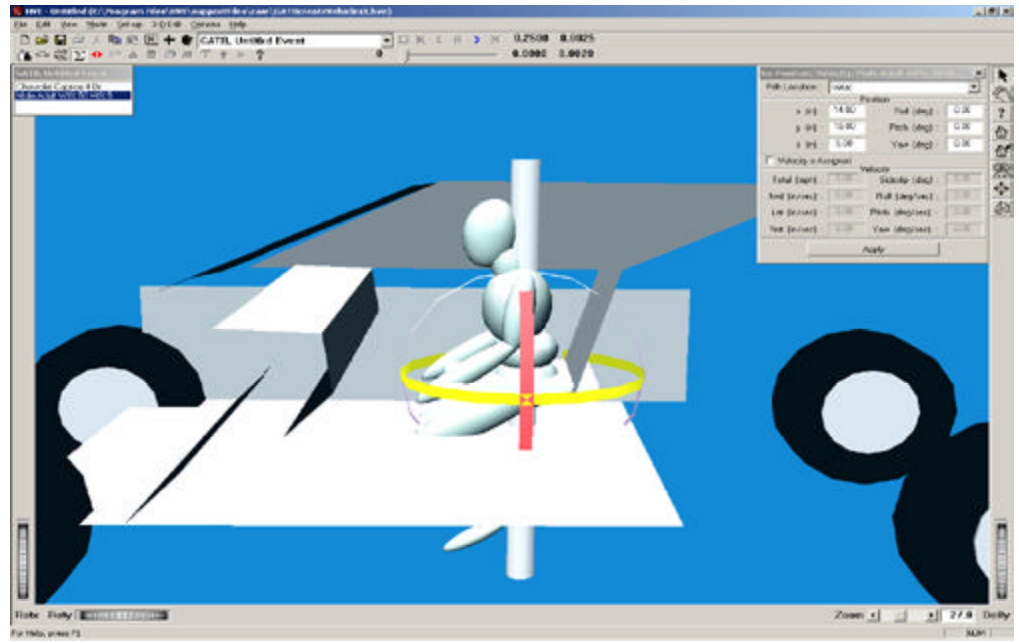

Figure 5-20: Setting up the GATB event
- Select *GATB* from the Calculation Methods options list as shown in Figure 5-20.